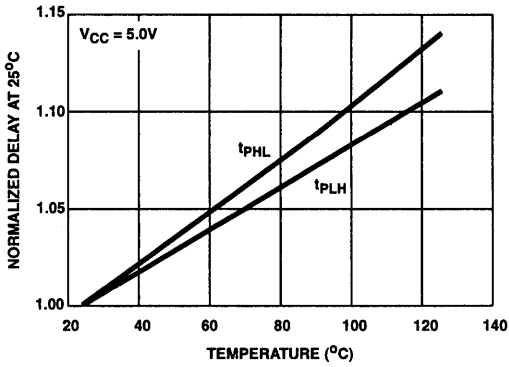

FIGURE 1. OUTPUT DELAY vs TEMPERATURE (t_{PLH}/t_{PHL})
2. Switching specification parameter performance is shown in Figures 1, 2, 3, 4, 5, 8, and 9 are similar for all types listed in note 1.